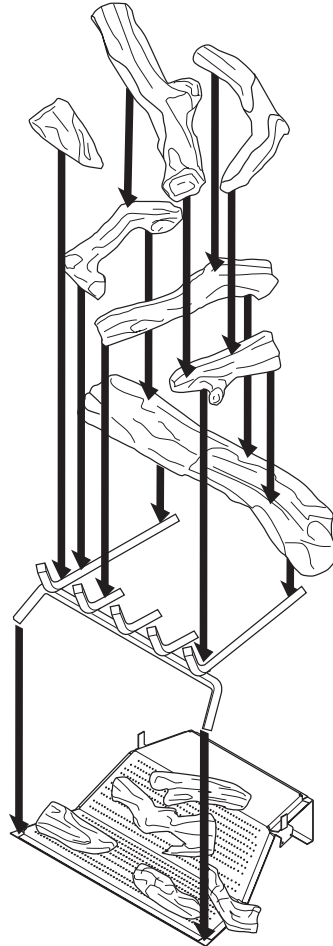

Figure 8 - Installing Logs and Grate
2. Place large back log on grate at top tier (rear) of ramp (see Figure 8).
3. Figures 8 and 9 show a suggested log arrangement, however you may arrange logs as you wish. Leave as much open space between logs as possible to minimize flame impingement and sooting.